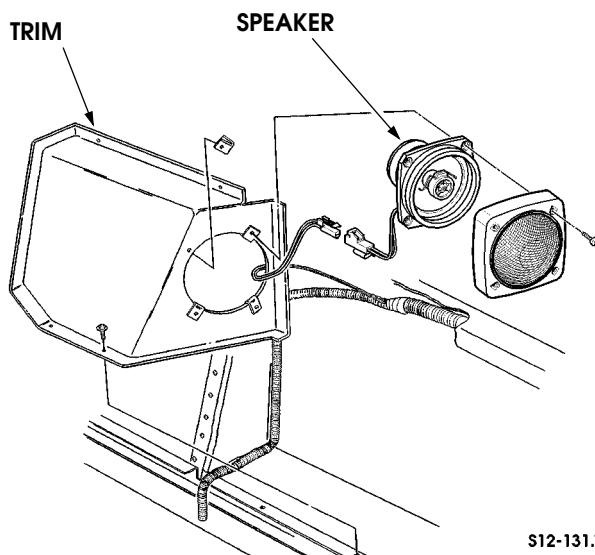

Figure 12-114.11: Right Rear Speaker Model 90.
6. Remove four screws, clips, cover, and right rear speaker from trim (Figure 12-114.11).
4. Connect two leads to right rear speaker (Figure 12-114.11).